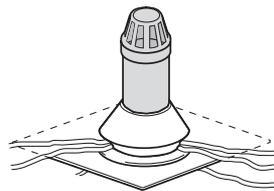

Fig.21d Steps 6/7
Step 7 – Remove the vent cowl. Solvent-weld 131 Weathering Apron to pipe above rubber cone to prevent water ingress (Fig.21d)